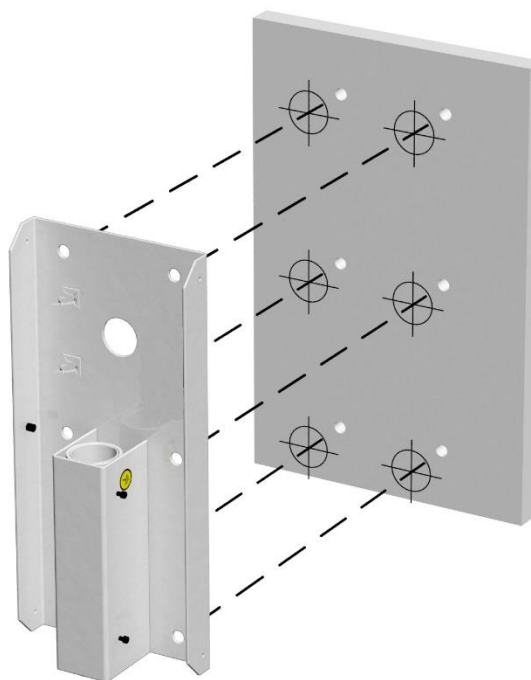

fig. 2
- ✓ Plot on the wall the position of the six holes making sure to check the perpendicularity with a plumb line. If the electric plant is recessed, track also the corresponding hole (Fig. 2)